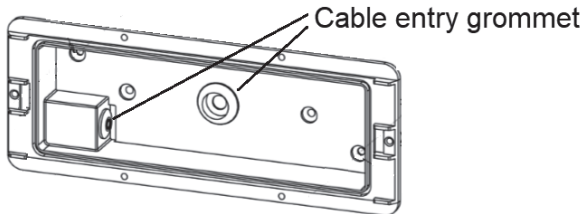

Fig. 2
- Feed the mains cable through the grommet on either the rear or the side of the luminaire housing (see Fig. 2) ensuring a good seal is made to retain the IP rating. The luminaire can be fitted horizontally or vertically, enabling cable entry on either side
- Feed the mains cable through one of the cable entry grommets in the luminaire housing (see Fig. 2) ensuring a good seal is made to retain the IP rating